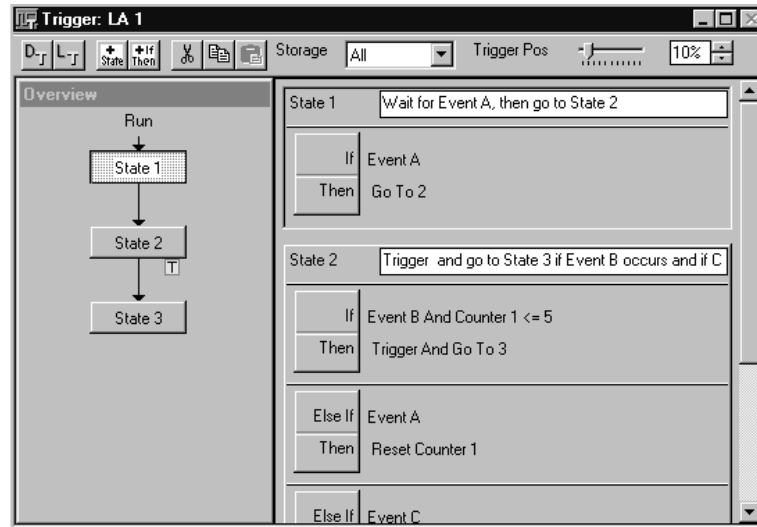

Figure 1–9: LA Trigger window
**LA Trigger Window.** The LA Trigger window is the heart of the logic analyzer. You can use the Trigger window to define the conditions when the logic analyzer acquires and stores data. See Figure 1–9.